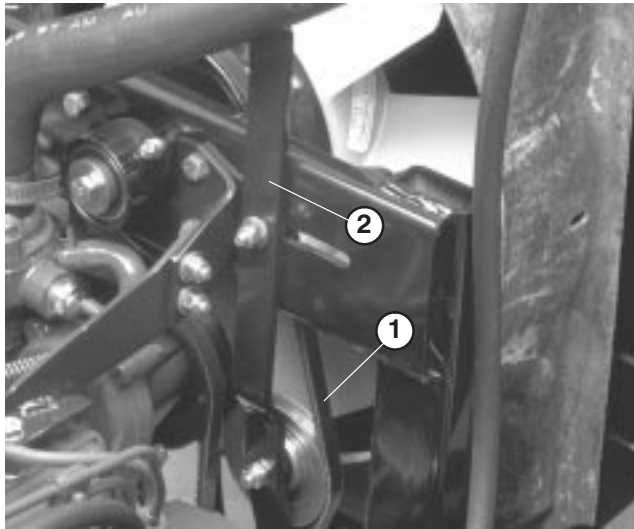

Figure 58
1. Loosen locknut on belt tensioner lever (Fig. 58).